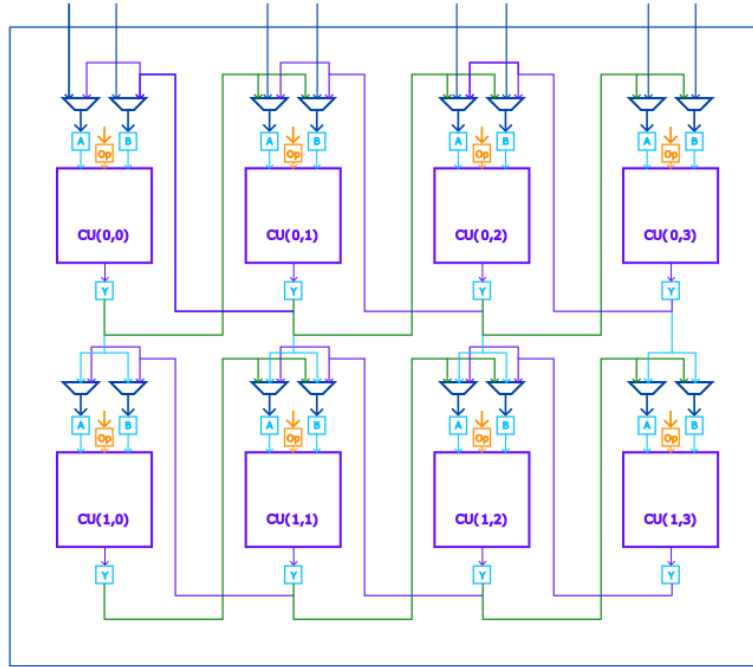

Figure 1: Overall design.
Using the same CU from HW 2 but with a data width parameter set to 4, implement the design shown in Fig. 1. Arrays are also required to be used for all of the ports and signals (but generates are not required). Storage units will be used to store both the data inputs (A, B) and data outputs (Y). The first row of CUs all have the ability to use external data, but also have horizontal connectivity input options, with the left connectivities being in purple and the right connectivities being in green. Appropriately sized muxes must be used to allow for the shown connectivities. Unused data inputs to the muxes must be grounded. The second row of CUs can also obtain data from the output of the CU in the same corresponding column but in the previous row. The overall outputs will be all of the CU outputs from the second row.